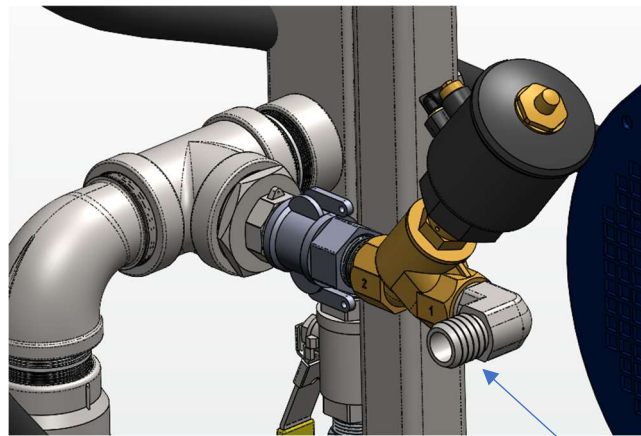

Figure 9. Reclaim Underbody
Step 7: Attach 1" hose provided to underbody valve stack hose barb as seen in Figure 9 below. If site has reclaim underbody already, attach the previously used 1" hose to the new hose barb. If reclaim underbody valve stack is not installed, proceed to step 11.